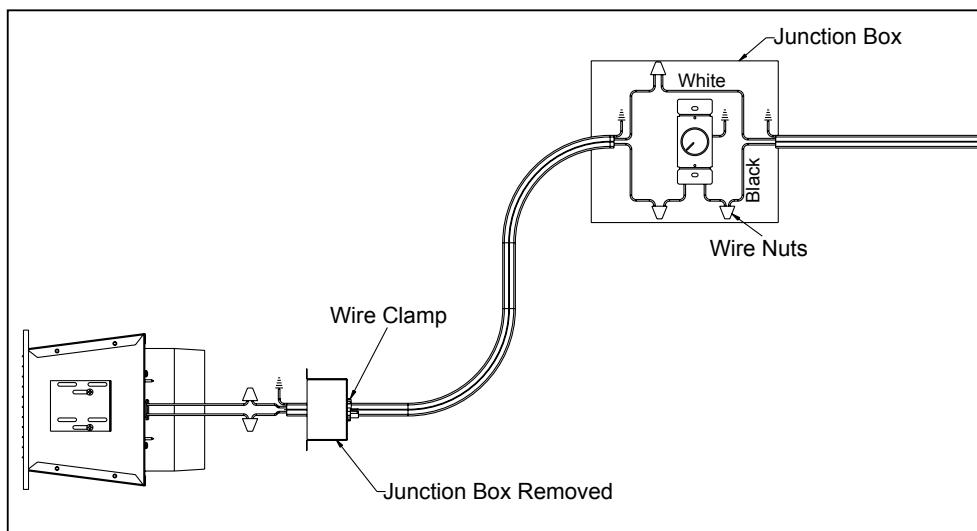

Figure 8
11. Remove the Junction Box. Wire 110 VAC service TO the wall rheostat and FROM the wall rheostat to the fan Junction Box. Use wire nuts to secure the 110 VAC service wires to the hot (black) and neutral (white) fan wires and screw the 110 VAC ground wire to the Junction Box. See Figure 8.